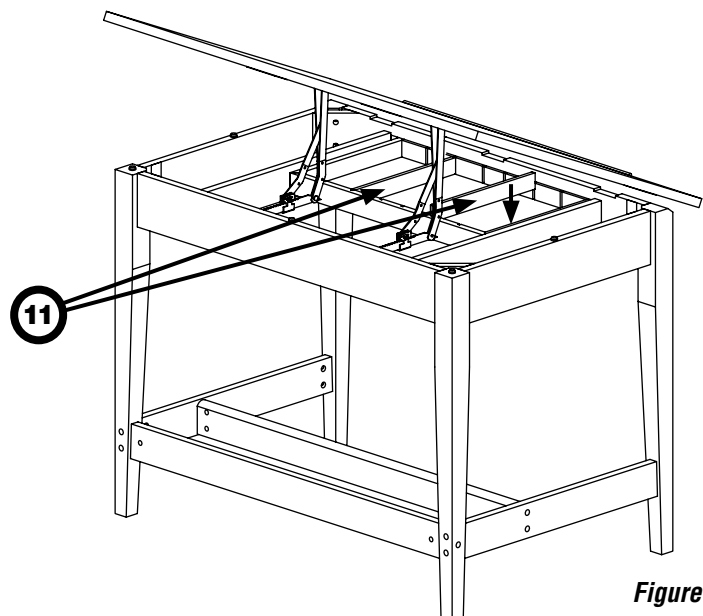

Figure 6
- 2** Insert drawer dividers (**11**) into desired slots as shown in Figure 6.